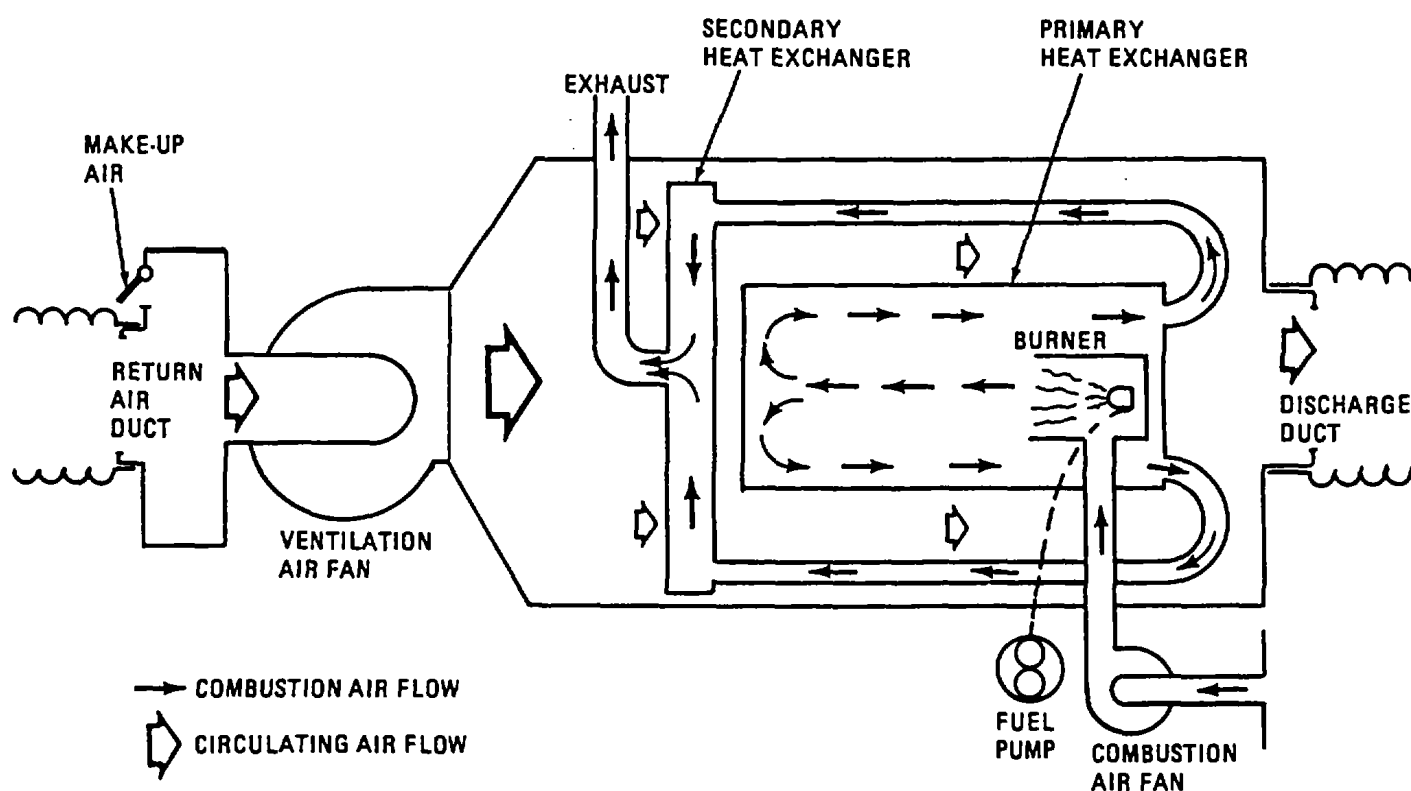

Figure 1-6. Air Flow Schematic
a. General. The airflow system is divided into two separate air flows and is illustrated schematically in Figure 1-6. Major items include the circulating air fan, primary and secondary heat exchanger, burner, combustion air fan.
(1) Ventilation Mode. Ventilation air is drawn through the return air duct and/or the fresh air damper by the circulating air fan. The ASH enclosure becomes pressurized, the air moves first around the secondary heat exchanger then through the primary heat exchanger. From the primary heat exchanger the air is discharged through the supply air duct.
(2) Heating Mode. The airflow in the heating mode is identical to that described for the ventilation mode, except the air passing over the heat exchanger is heated by the heat exchanger as required by either the remote thermostat (Auto Heat Mode) or the discharge air thermostat (Manual Heat Mode).